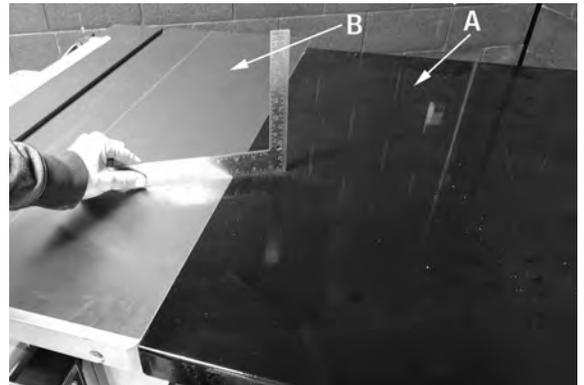
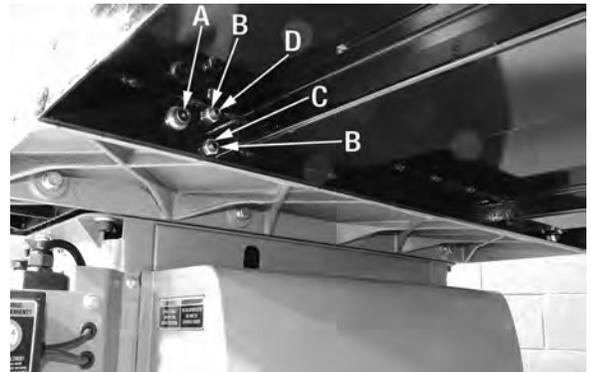

FIGURE 7
FIGURE 8
1. The steel extension table (A) Fig.7 gets mounted to the edge of the cast-iron extension table (B). Mount the steel extension table using 2 cap screws, spring washers and washers (A) Fig.8.
2. Place a straight edge on the steel and cast-iron extension tables as shown in Fig.7 and verify that the tables are perfectly flush. If an adjustment is needed, loosen the hex. nuts (B) Fig.8 at both ends of the extension table. Adjust the bottom set screws (C) to raise the table or adjust the top set screws (D) to lower the table. Once this adjustment is done, retighten all 4 hex. nuts (B).